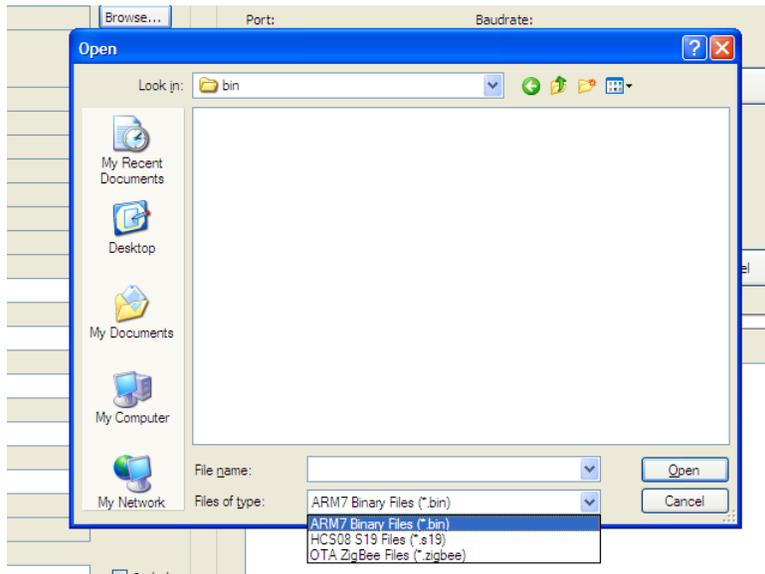

Figure 10-5. Selecting S19 File Type
9. Select HCS08 S19 Files in the “Files of type” drop down in the Open window as shown in Figure 10-5.